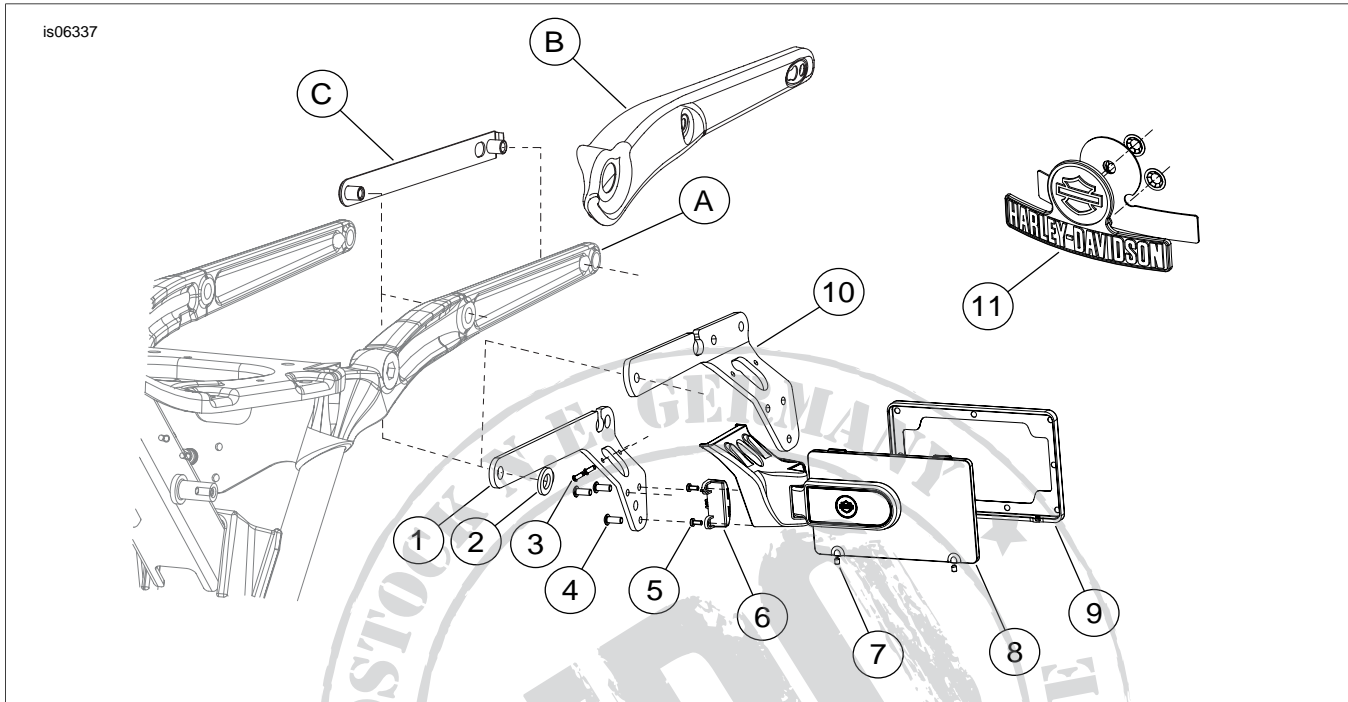

Figure 2. Service Parts: Side Mount License Plate Kit
See Figure 2 and Table 1.
4. See Figure 2. Install light (6) to the license plate mount (8) using screws (5).
6. Remove frame rail cover mounting screws from the left side of the motorcycle and remove the frame rail cover (B) and mounting bracket (C).
7. See Figure 2. **DYNA MODELS:** Slide the mount bracket (1) between the fender and frame rail and the mounting bracket (C) behind the fender. Install the spacer (2) around the front hole in the license plate bracket (1). Install the frame rail cover (B) and install the screws. Leave the screws loose so the license plate wiring can be installed. **SPORTSTER MODELS:** Position the mount bracket (10) between the fender and frame rail. Install the frame rail cover (B) and the screws. Install mounting bracket (C) behind the fender. Leave the screws loose so the license plate wiring can be installed.
9. See Figure 2. Assemble license plate mount (8) to the mount bracket with screws (4). Torque to 8-10 ft-lbs (10.8-13.5 Nm).
11. See Figure 2. Install the license plate to the license plate mount (8) and install the frame cover (9) using set screws (7).